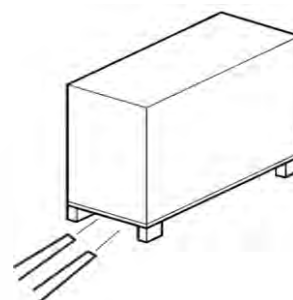

Fig. 21: Transportation with a forklift vehicle
1. Move the forklift so that its forks are inserted, as shown in Fig. 21.